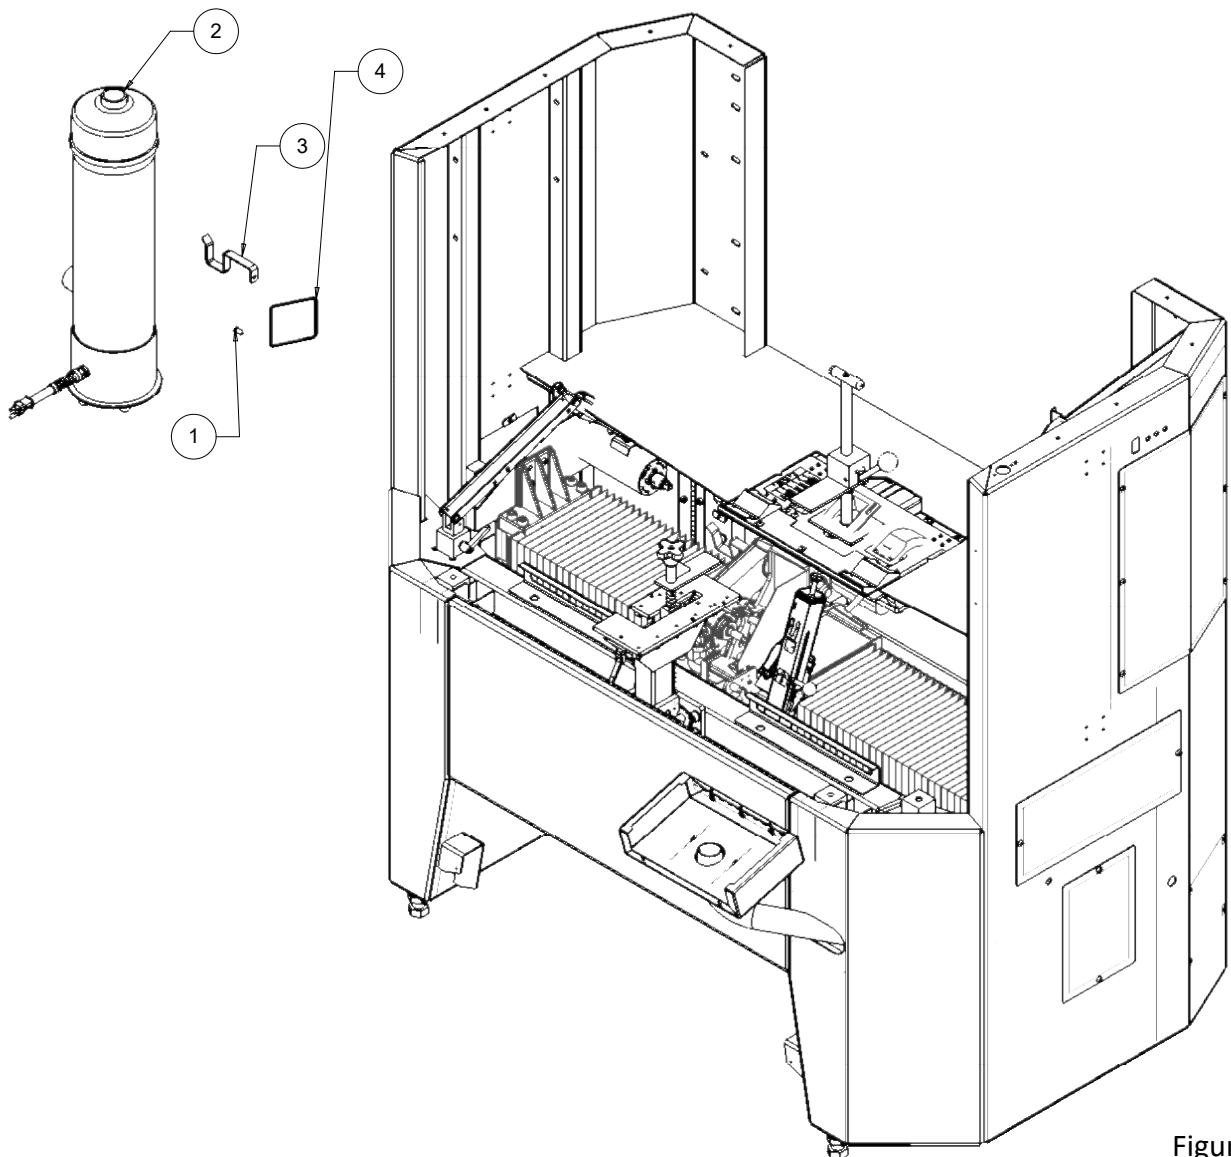

Figure 2
5. Locate the Vacuum Hose and install the Adapter onto the grinding wheel end of the hose. Attach the hose to the top of the vacuum (see Number 2 on Figure 2) and feed it through the Vacuum Hose Bracket (Number 3). Attach the hose to the grinding head. Squeeze the 6509269-hose bracket to tighten it around the vacuum hose so it does not move as the grinding head moves left to right and back again.